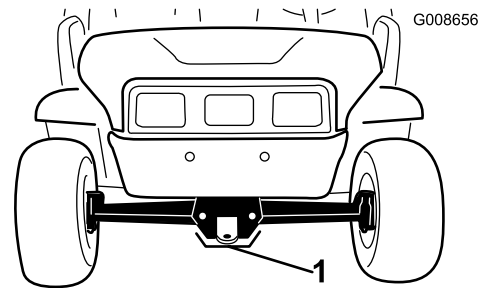

Figure 23
- The lifting point at the front of the machine is at the front of the frame behind the towing tongue (Figure 23).